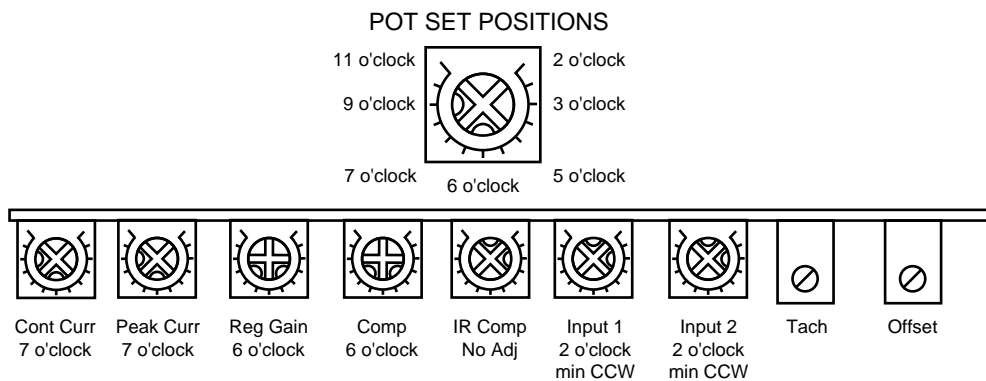

Figure 8-5 PWF4 Motor Speed Controller Trim Pots
2. Preset the potentiometers on the motor speed controller as listed in Table 8-5 (refer also to Figure 8-5). These are approximate settings and will be adjusted later.